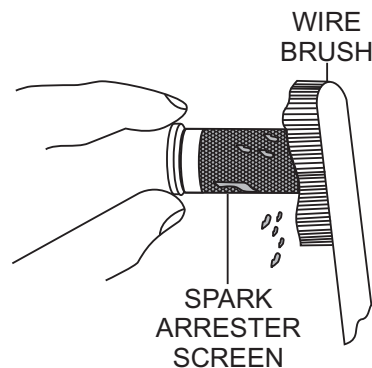

Figure 35. Cleaning The Spark Arrester
4. Carefully remove carbon deposits from the spark arrester screen (Figure 35) with a wire brush.